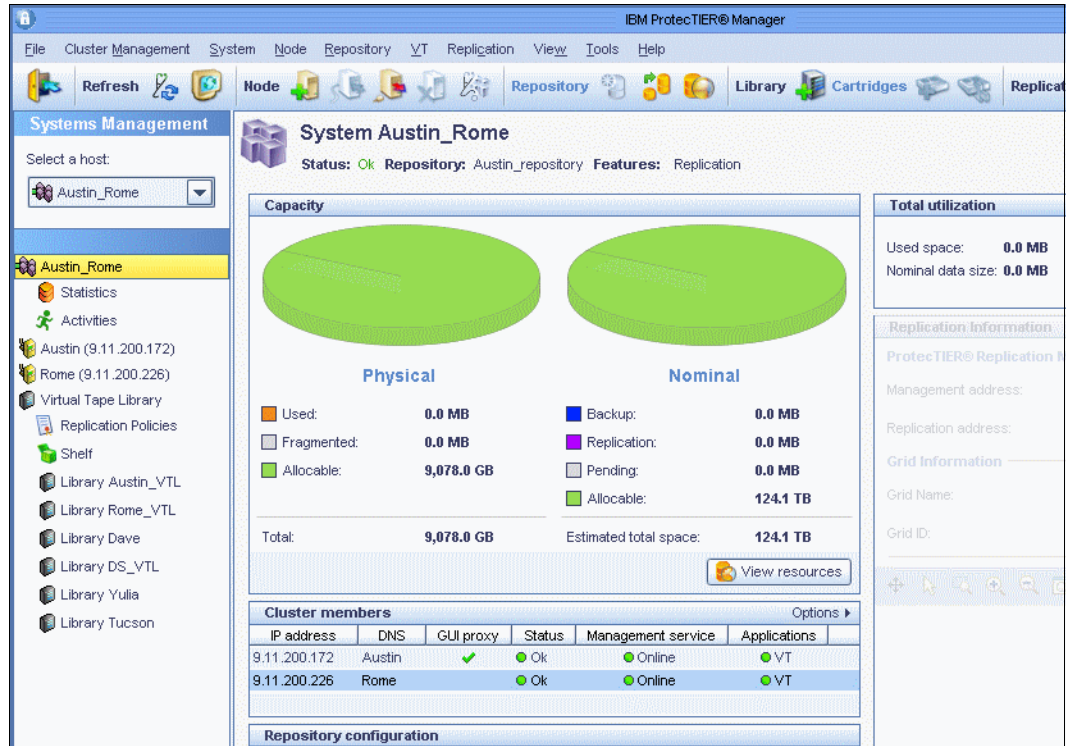

Figure 10-81 ProtecTIER Manager window with added cluster member
- Click **Finish**. The Add cluster member wizard closes and the node is added to the selected cluster (Figure 10-81).